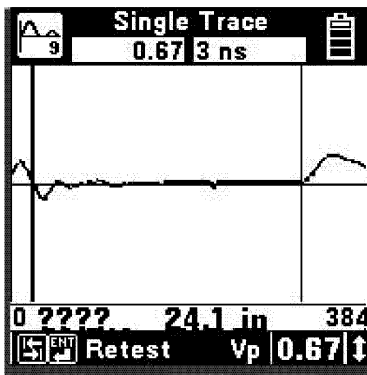

Figure 28. AST900 Unclassified Fault Display
(4) If further analysis is needed, enter a longer length and retest. If multiple events are detected, the Auto TDR places the cursor at the most significant event and attempts to classify it.
(5) Light cursor marks are placed at less significant event locations. Press the  key to move the cursor to the other events detected.
(6) In this case the low impedance anomaly at 24 inches is detected but not yet classified, the Auto TDR displays ‘????’ below the trace. (Figure 28)